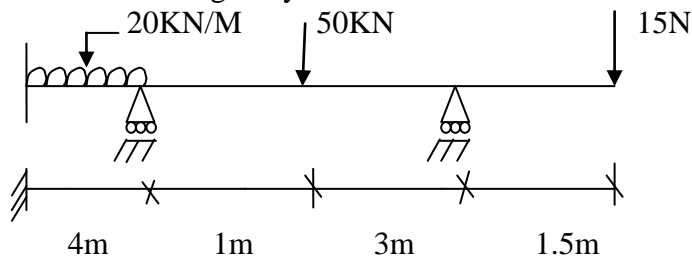

Fig 2
Q.10 Analyze the beam showed fig. 2 by stiffness matrix method.